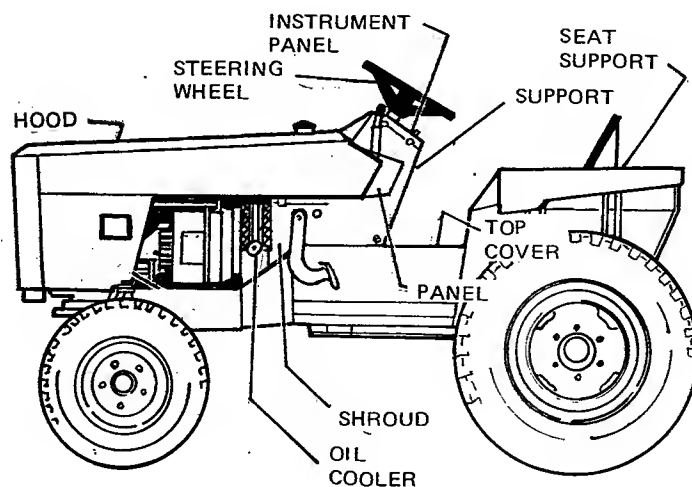

Figure 4. Tractor Components
I. TRACTOR COMPONENT INSTALLATION Figure 4.